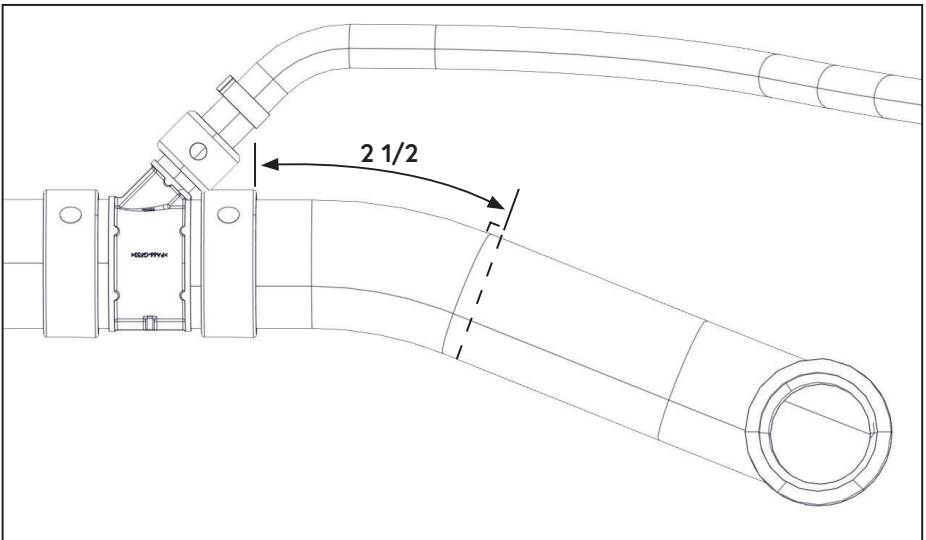

Figure 15 — Upper coolant hose modification
- ☐ From the molded cuff on the radiator side of the Tee, measure 2 1/2 in along the outside radius and cut the hose square (Figure 15).